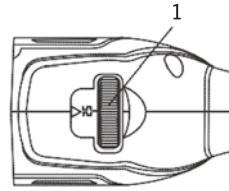

Fig. 14
The speed control wheel (1) is located at the rear of the tool (Fig. 14). Speeds from 0 to 35,000 RPM can be set by rotating the speed control wheel to show the desired speed (in thousands RPM).